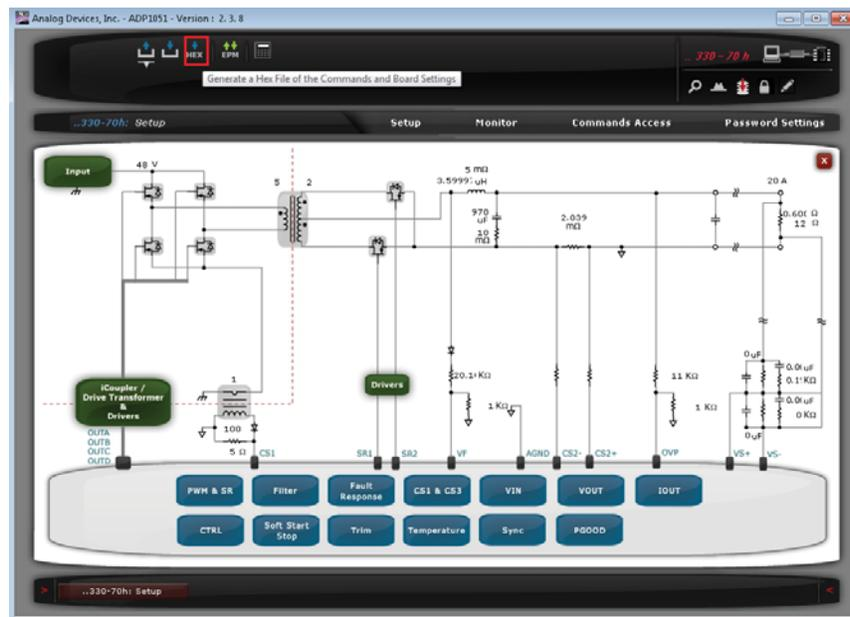

Figure 1. Analog Devices, Inc. – ADP1051 – Version: 2.3.8: Generating a HEX File
2. After the chip password is unlocked, click **Generate a Hex File of the Commands and Board Settings** in the GUI software, as shown in Figure 1. By clicking this button, all user settings, including the user command settings and board settings, are stored in a HEX file. Indicate the folder where this HEX file is to be saved when the appropriate window appears.